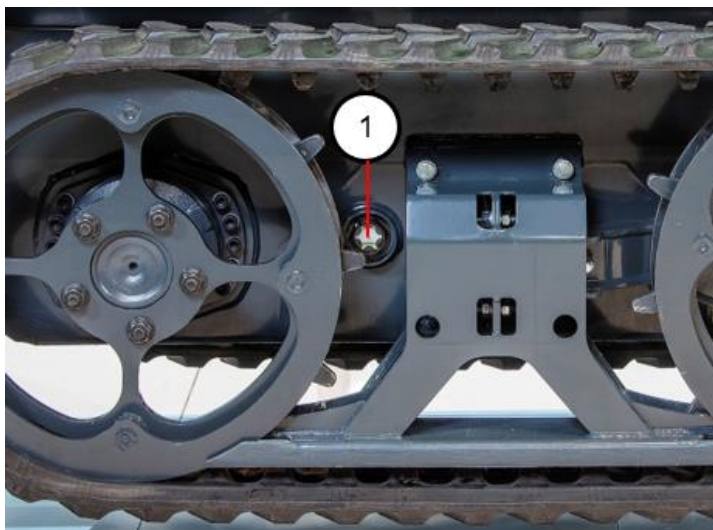

Figure 21 Oil level sight glass
The level of hydraulic oil can be checked from the oil level sight glass. The sight glass is located in the right side of the chassis, between the wheels or track wheels (Figure 21 (1)). The oil level should be at the top of the sight glass when the access platform is in transport position.